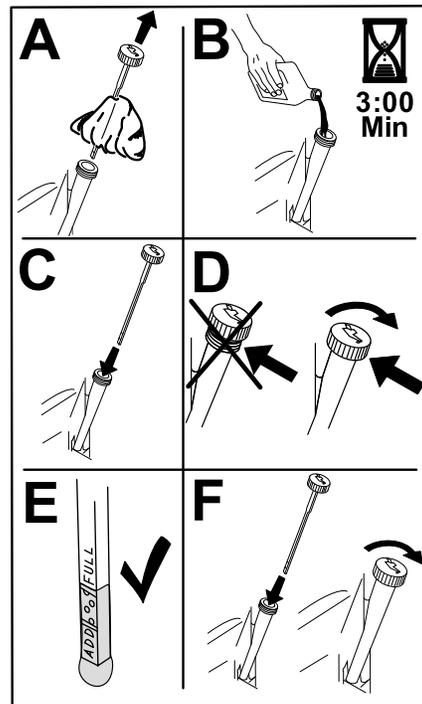

Figure 43
- Slowly pour approximately 80% of the specified oil into the filler tube and slowly add the additional oil to bring it to the Full mark (Figure 43).